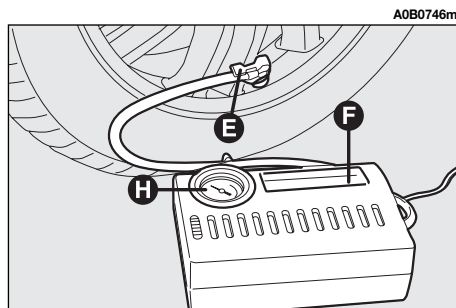

fig. 9
– fit and then lock the compressor hose **(F)** to the tyre inflation valve using the lever **(E-fig. 9)** provided for the purpose;